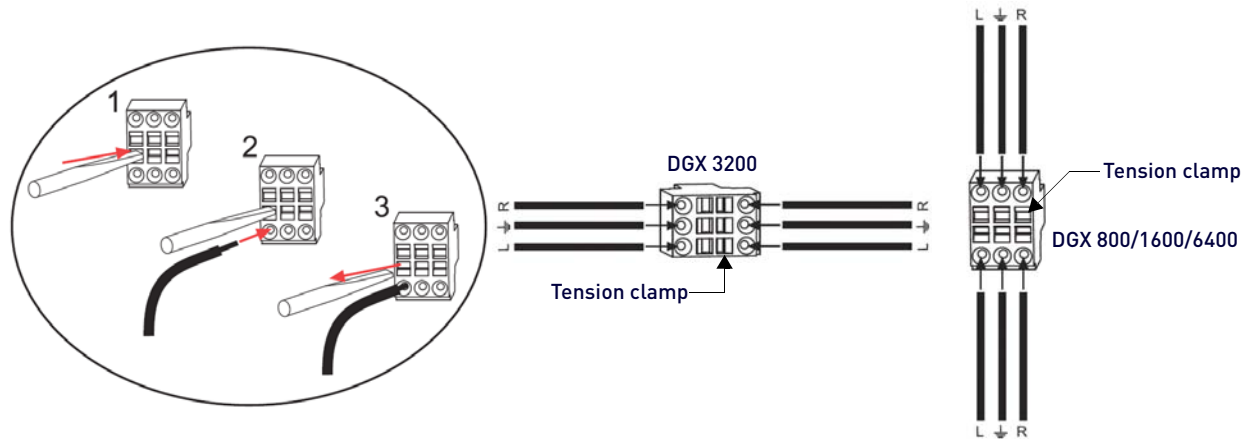

FIG. 93 Audio wiring for AIE Board
1. Check the numbering on the overlay to determine which board it applies to (see FIG. 93 on page 182).
3. Remove the screwdriver from the square hole so that the clamp places tension on the wire (FIG. 93):